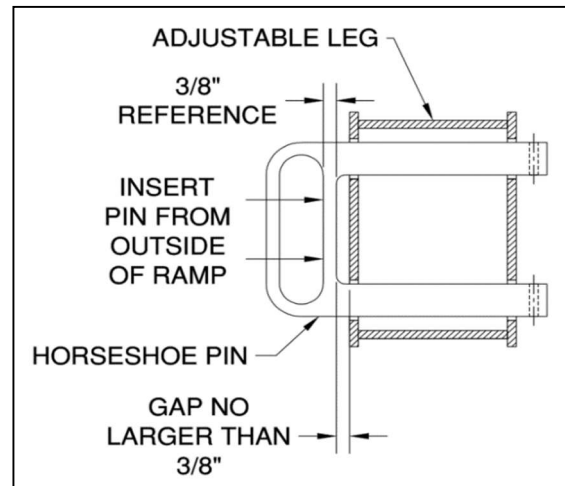

Figure 8: Proper Pin Insertion
4. Visually inspect the horseshoe pins to verify that they are inserted completely (see Figure 8).